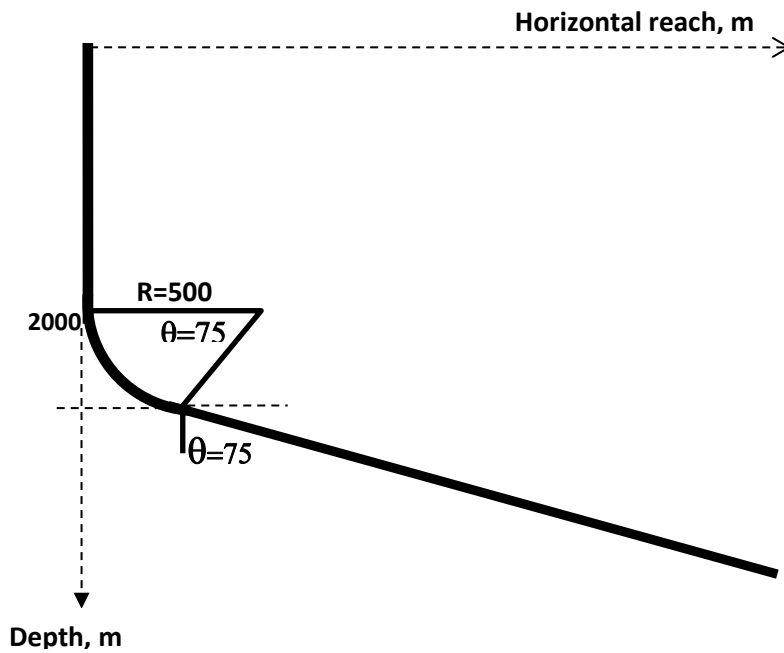
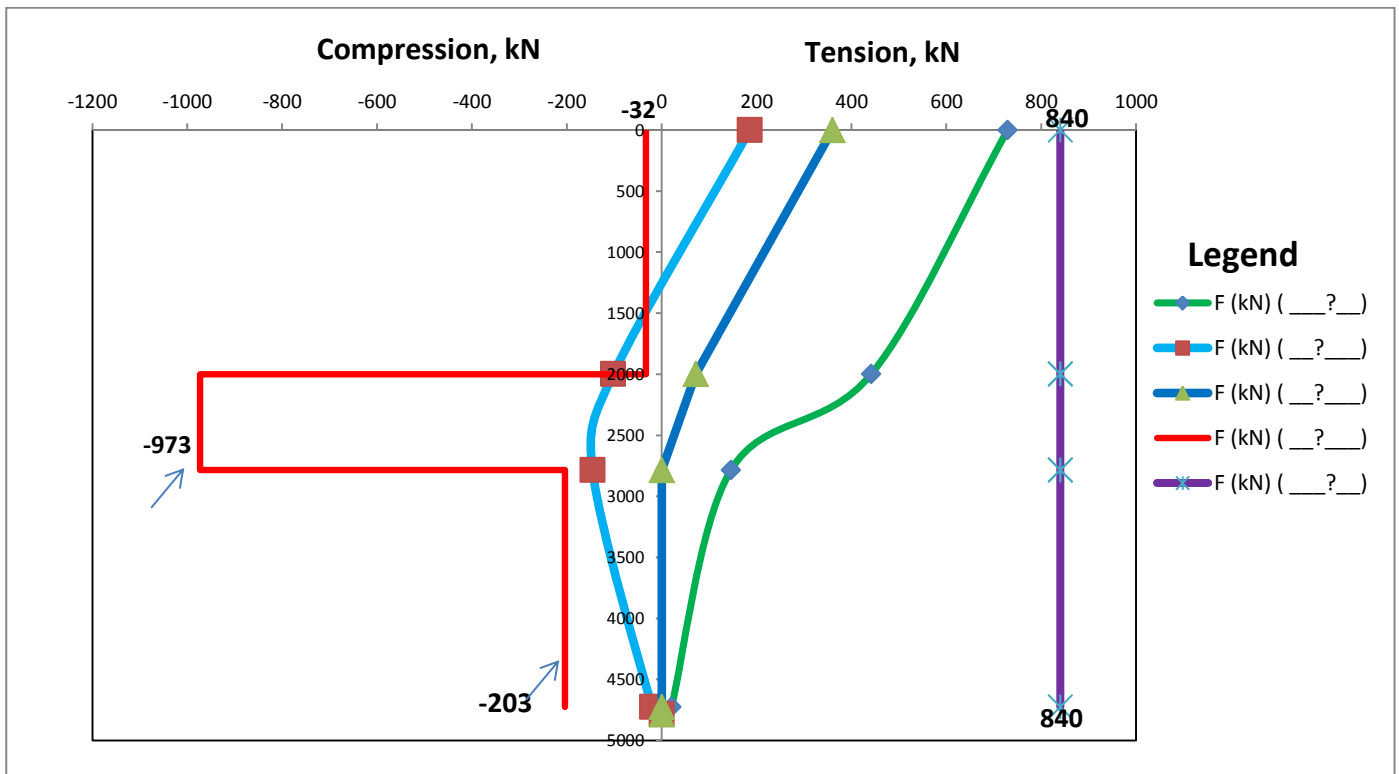

Figure 3: Well path through which drill string program will be designed
Figure 4: Drill string program for well path shown in Figure 3
A well is designed as vertical, bend and sail (or inclined) section as shows in **Figure 3**. **Table 1** below shows the design parameters used for drill string program and the result of the design is shown **Figure 4**.
Using the **Figure 4** and design parameters (**Table 1**), your task is to answer the following questions
- Please construct the legend based on the **Figure 4** **(2.5 Points)**